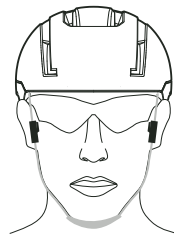

Fig. 6.
- Fig. 6 shows how the helmet will look from the front when adjusted correctly.